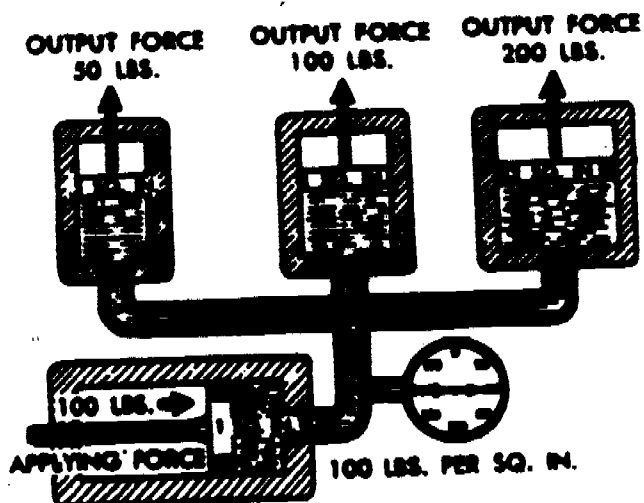

Figure 12.
5. Force developed on an output piston is the pressure in the system multiplied by the area of the output piston. Figure 12 shows a 100 pound force applied to a 1 square inch area piston developing 100 psi in a closed system. On piston A, having an area of 1/2 square inch, a force of 50 pounds will be developed. On piston B, 1 square inch area, 100 pounds of force will be developed. On piston C, having an area of 2 square inches, 200 pounds of force will be developed.